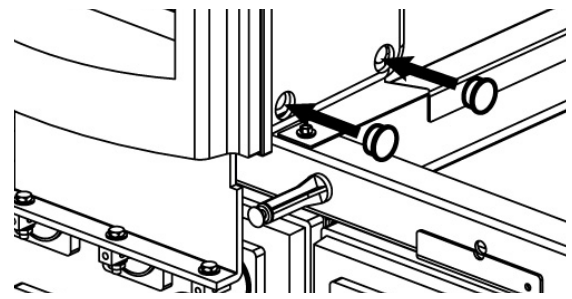

Figure 13. Insert hole plugs
Step 7. After mechanical mounting of DCX unit has been completed, snap the two black plastic hole plugs into the access holes that cover the 3/8 in. mounting bolts (see Figure 13)